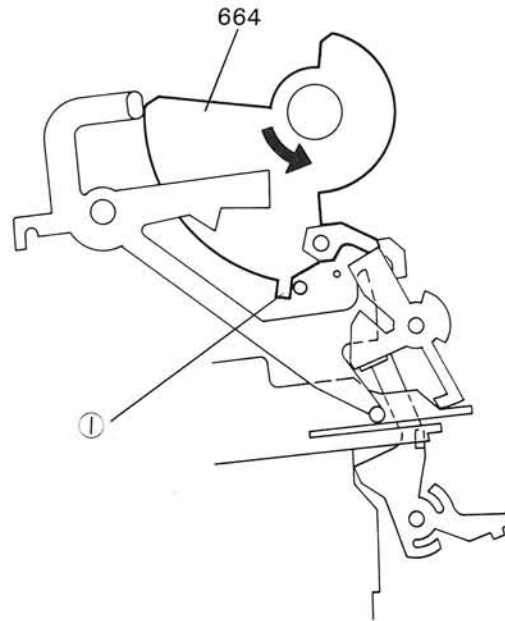

Fig. 11
By the protrusion (①) of the tonearm feed cam (664), the tonearm starts to return. (Fig. 11)